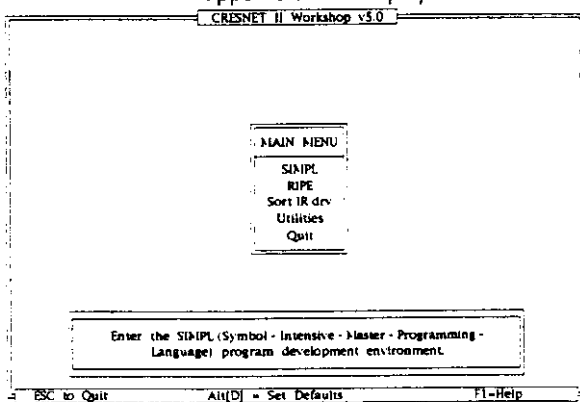

Figure 3. MAIN MENU, Workshop
2. The Workshop commences with an opening screen. Depress any key to open the MAIN MENU, illustrated in figure 3.